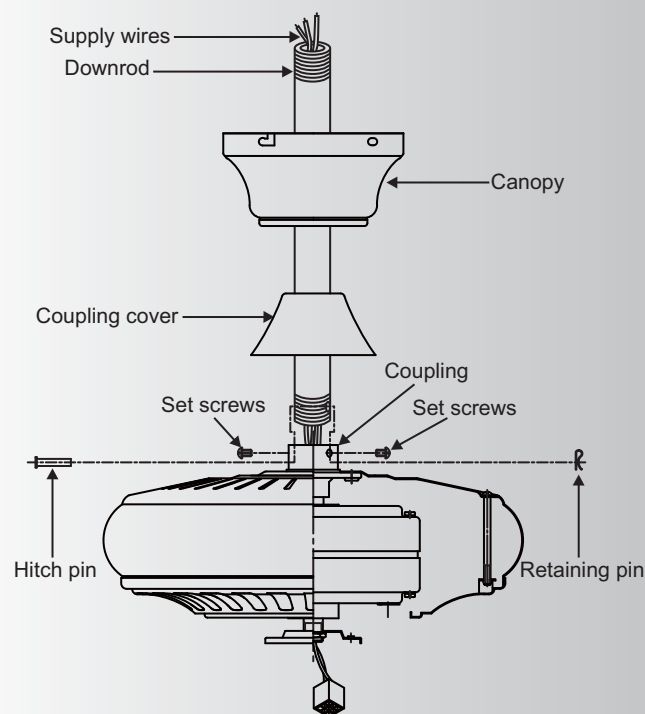

Fig. 7
Step 2. Loosen the two set screws and remove the hitch pin and retaining clip from the coupling on top of the motor assembly. (Fig. 7)
Next, replace the hitch pin and retaining clip. Tighten both set screws. (Fig. 7)
Step 4. Slip the coupling cover and the canopy onto the downrod. (Fig. 7)